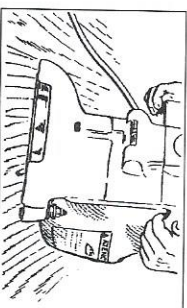

Figure 4
3. Return machine to upright position and tilt machine back on casters until it comes to rest on the exhaust bracket. Machine will be in a reclined position. Do not allow machine to rest on pad especially after use, or compression set may take place within elastomer on pad. This will create a flat spot and bounce during use. (Figure 4)
3. With the machine in the reclined position, firmly grasp both handles and flip the control switch to the "ON" position. (Figure 4.)